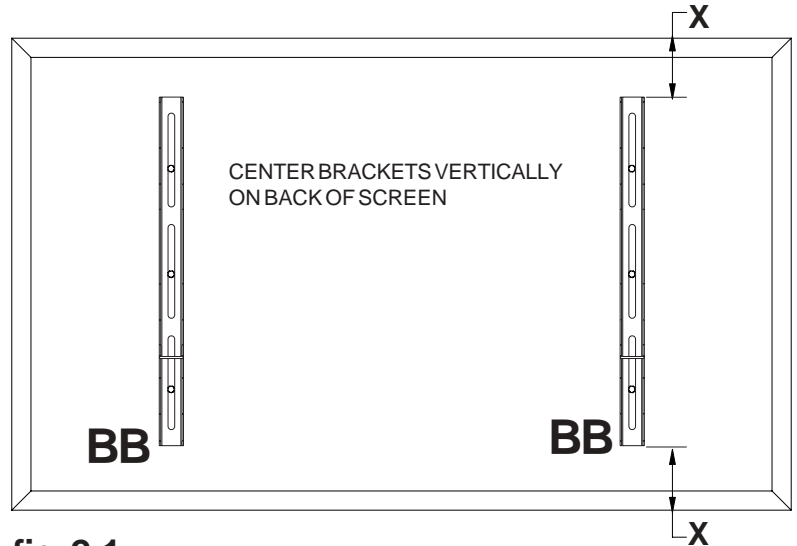
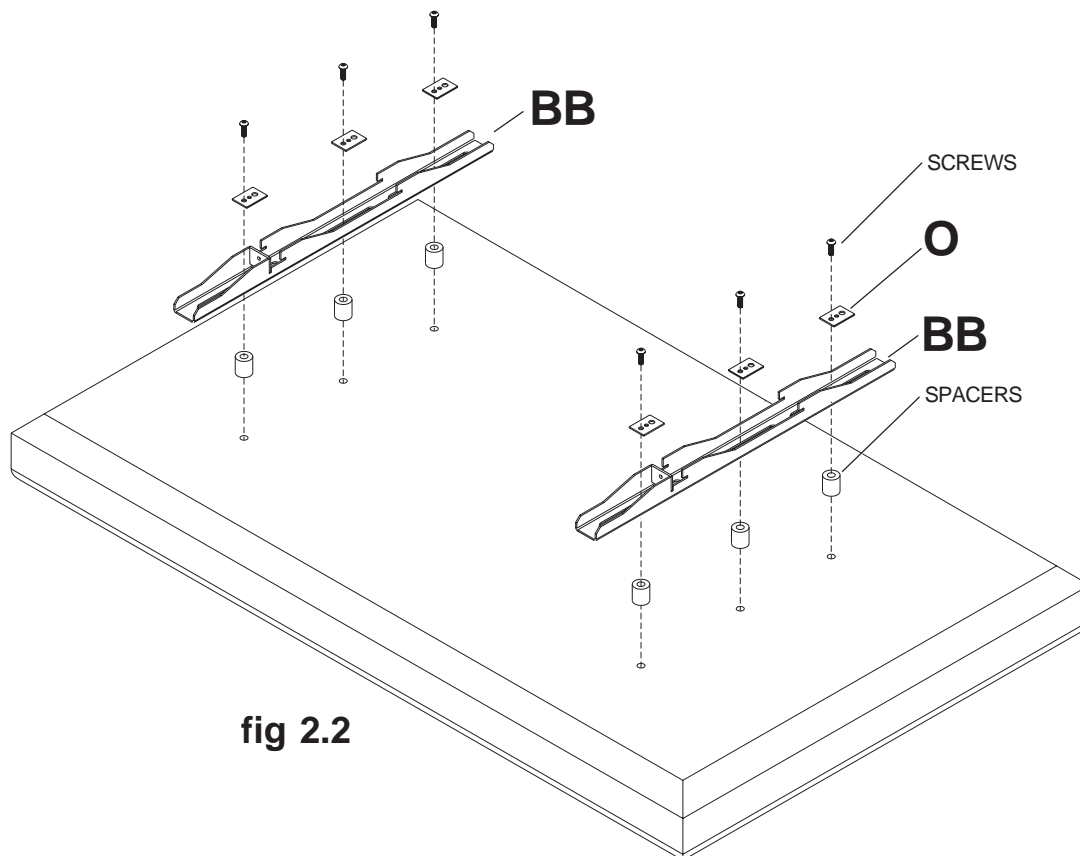

fig 2.1
fig 2.2
- 2** To prevent scratching the screen, set a cloth on a flat, level surface that will support the weight of the screen. Place screen face side down. If screen has knobs on the back, remove them to allow the adapter brackets to be attached. Place adapter brackets (**BB**) on back of screen, align to holes, and center on back of screen as shown in figure 2.1. Refer to step 1 to determine the proper fasteners to use. Attach the adapter brackets to the back of the screen using the appropriate combination of screws, multi-washers (**O**), and spacers as shown in figure 2.2. Verify that all holes are properly aligned, and then tighten screws using a phillips screwdriver.